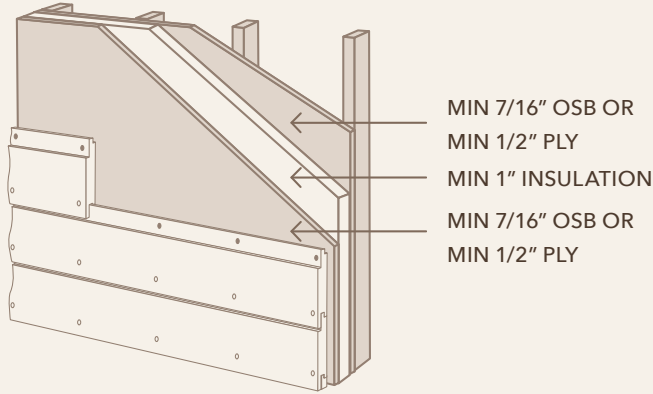

FIG. 8
- Minimum 1" Insulation over minimum 7/16" OSB or 1/2" plywood sheathing. (Fig. 8)